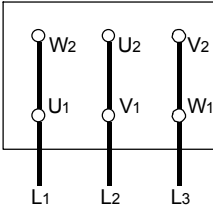

Fig. 13a. Δ - connection
- The mains connection on the tagboard depends on the nominal power of the motor, the power supply and the type of connection. The necessary connection of the bridges in the terminal box is shown in the following (Table 1. and Fig. 13a, 13b, 13c).